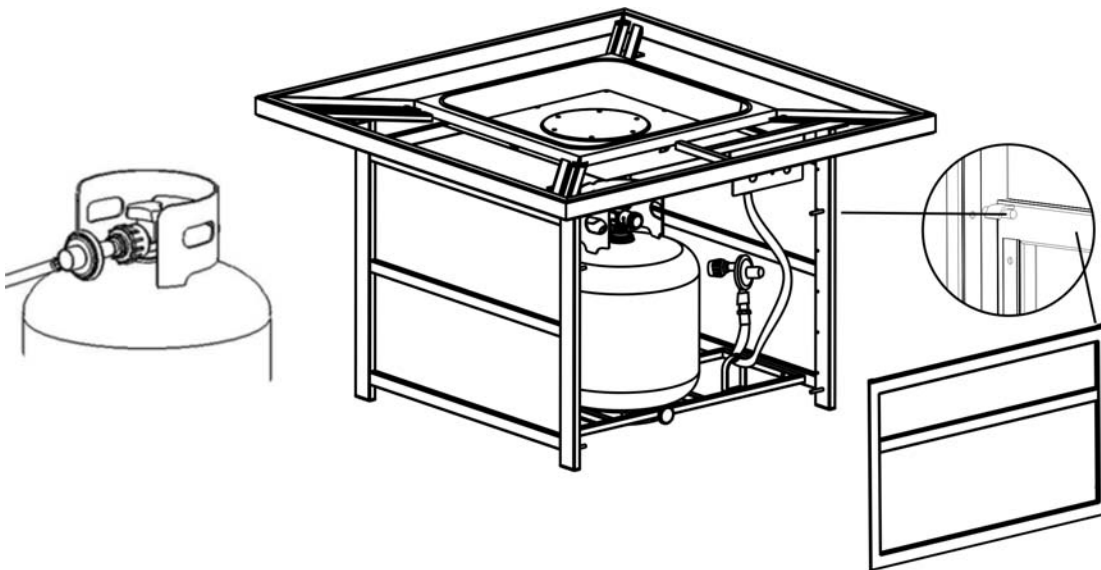

Figure 6
4. With the help of another person, carefully place the table rim onto the firepit base. After making any necessary adjustments to the alignment of the table rim and the assembled base, use four 1/4"x15 mm bolts and $\text{\O}18\times\text{\O}6.5\times1.5$ mm washers as shown in Figure 6. Guide the bolts through the holes in the side panel brackets, into the predrilled holes in the table rim. **Hand tighten only.**
7. Slide the tank drawer out and place the LP tank in the drawer. Connect the regulator as shown in Figure 6. Turn the black handle clock-wise to tighten. Turn the handle counter clock-wise to remove. The hose must point down. Check that the valve is turned all the way clockwise to the "OFF" position. Open the tank valve. Apply a solution of soapy water to the tank-regulator connection and to the valve-hose connection to check for leaks. If soap bubbles continue to form, the connection has a leak. If a leak is found, close the tank valve and tighten all connections.